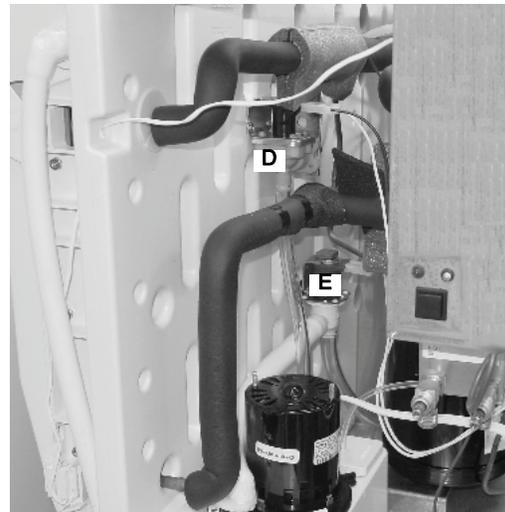

Figure 10.
7. Disconnect the electrical plug from the Water Fill Valve (D) and Water Dump Valve (E) (FIGURE 10).